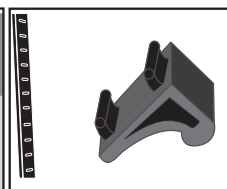

Figure 8.2
2. Remove the support clips (Figure 8.2).